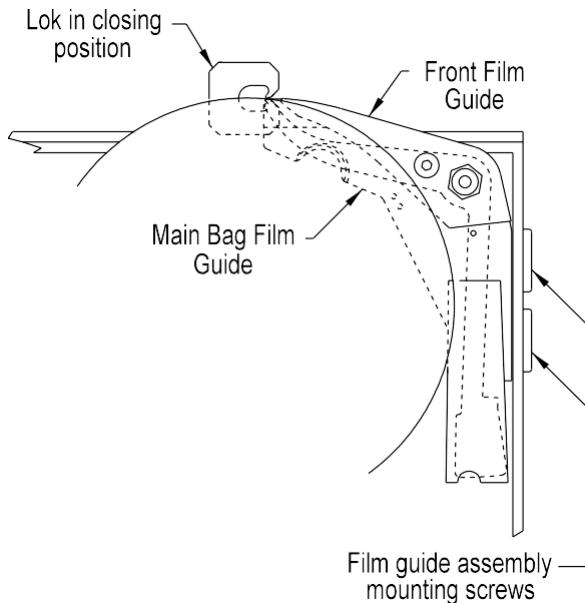

Figure 5.5
E. BAG FILM GUIDE ASSEMBLY HEIGHT ADJUSTMENT: (Figure 5.5)